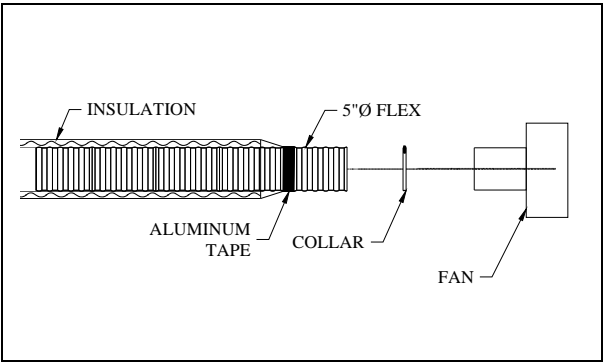

Figure 17
- C) Attach the flexible pipe to the fan's air inlet using the collars provided (figure 17);